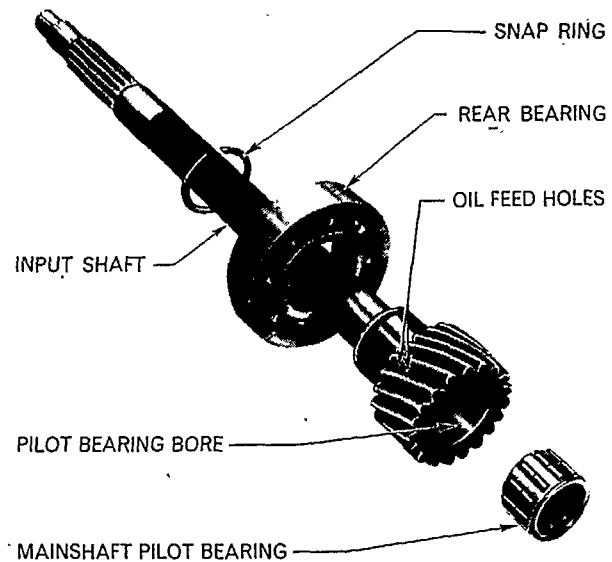

Figure 23
1. Remove the needle roller pilot bearing, which is a loose fit in the bore at the gear end of the input shaft, Figure 23. Check the bearing, and the bore in the shaft, for wear and install new parts if necessary.